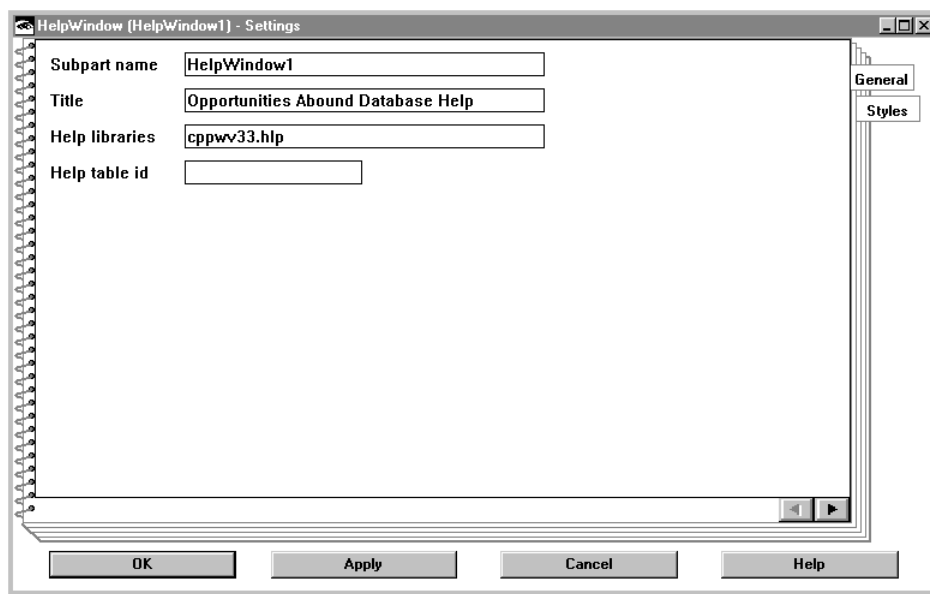

Figure 116. The Help Window's Settings Notebook
3. Open the settings notebook for the IHelpWindow* part. See “Changing Settings for a Part” on page 138 if you need information on how to do this. It looks like Figure 116.